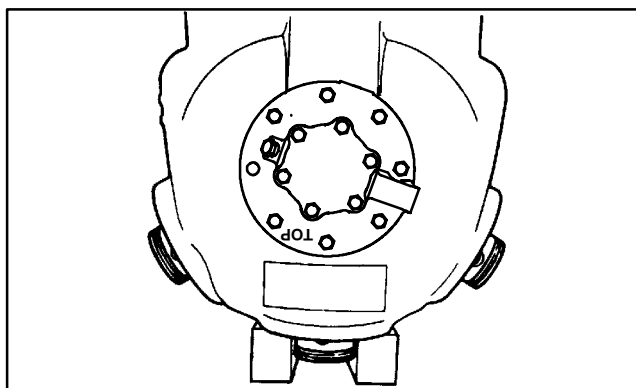

Figure 3-12. Piston Rings Removed
- b. Install the bearing head assembly with a new gasket on the compressor crankshaft. Carefully push oil pump on by hand ensuring that the thrust washer remains on the dowel pins, the tang on the end of the drive engages the slot in the crankshaft, and the oil inlet port on the pump is aligned with the oil pickup tube in the crankcase. The oil pump should mount flush with the crankcase with the "TOP" stamp on the pump oriented straight up. (See Figure 3-12)
- d. Push the piston rods down so that the piston rings extend below the cylinders. Remove and discard piston rings. Use only new rings when reassembling the compressor. (See Figure 3-12.)